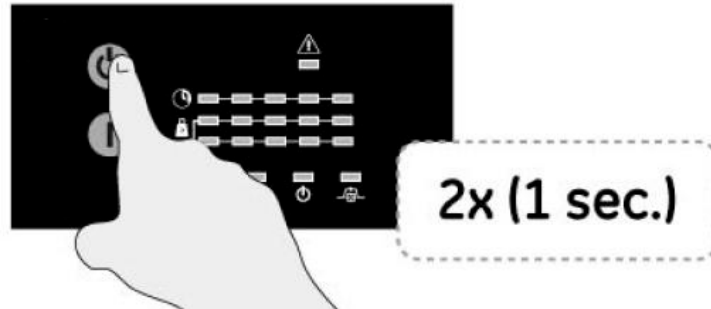

FIG 64 – TO TURN THE UPS OFF
3. Press the keypad  (FIG 64) for 1 second to switch the UPS to BYPASS.
Press the keypad  (FIG 64) for a second time for 1 second to switch the UPS OFF.